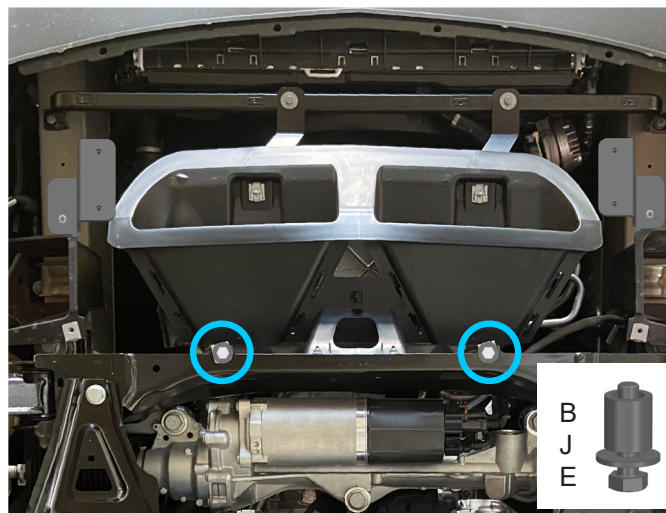

Fig. 4
4. Screw bolts M8x40 with washers 8 and spacers 20mm (item E, J, B) on 2-3 turns, as shown in fig.4.